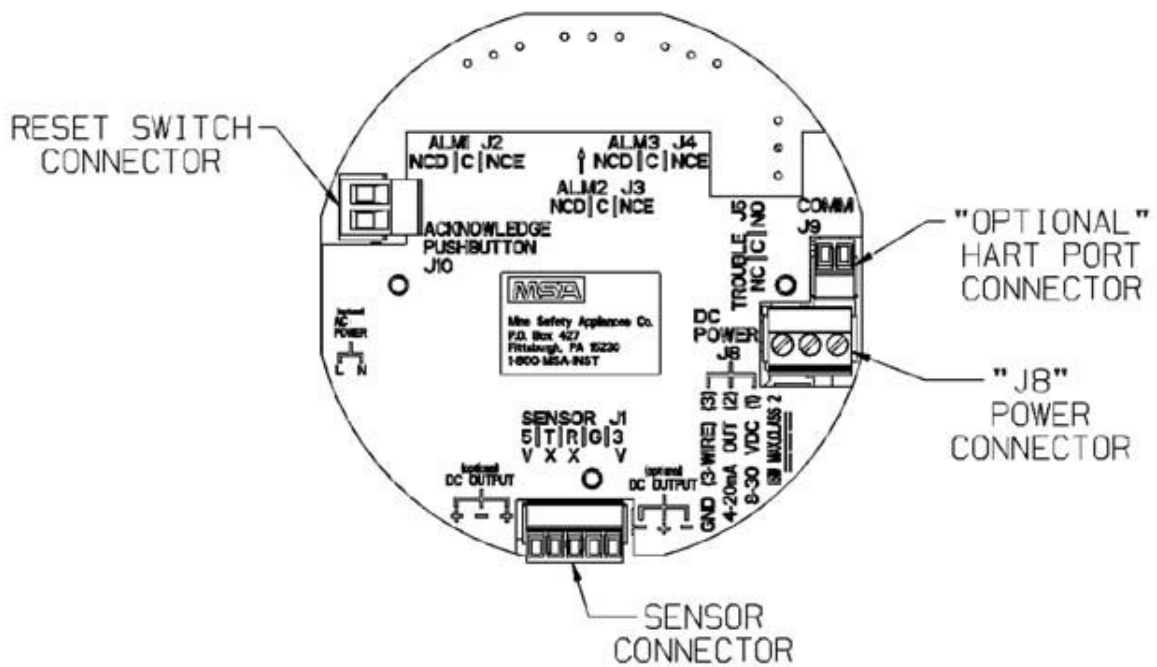

Fig. 15 Two-Wire Printed Circuit Board (with HART Protocol)
(1) Connect 12-30 VDC power lead to J8-1 (see Fig. 15).